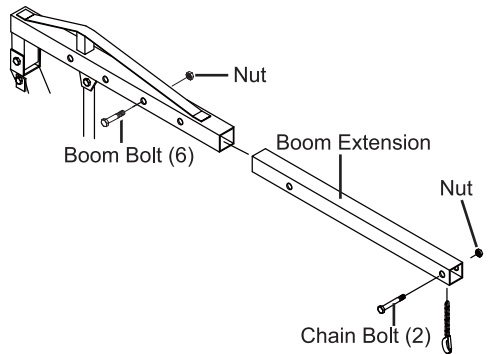

Figure 10
10. Slide the Boom Extension into the Boom and use the Bolt (6) and Nut (3) to secure at the desired load rating. Use the Bolt (2) and Nut (3) to attach the Hook and Chain to the end of the Boom Extension. See Figure 10.